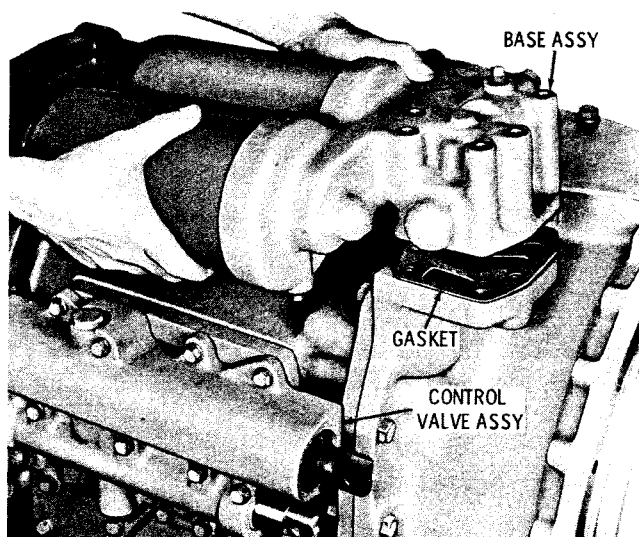

Fig. 5-4. Removing oil filter base assembly
(4) Remove six bolts and lock washers which retain the oil filter base assembly. Remove the oil filter base assembly and gasket (fig. 5-4).
(5) Remove 12 bolts and lock washers which retain the control valve assembly. Remove the valve assembly and gasket (fig. 5-4). Refer to paragraph 6-4 for rebuild of the control valve assembly.